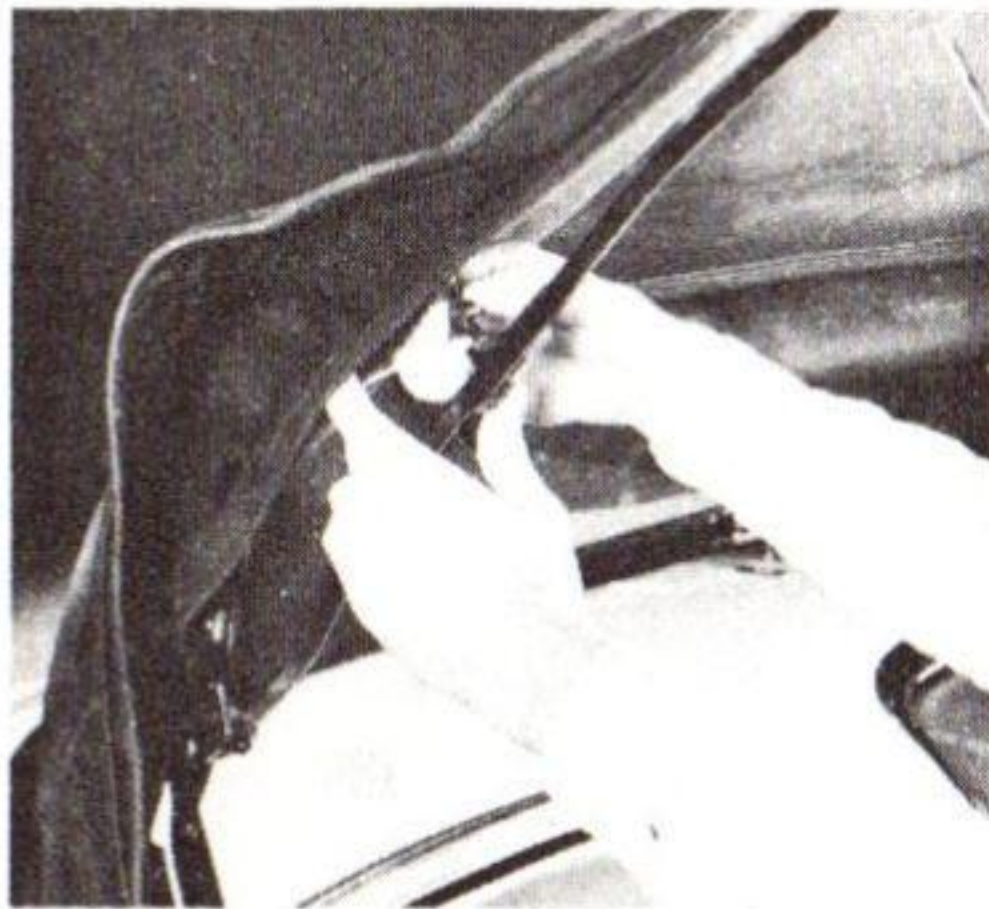

Fig. 42—Locking Side Irons
6. Lift the header rail and unfold the side irons, then lock them in position and tighten thumbscrew (fig. 42).